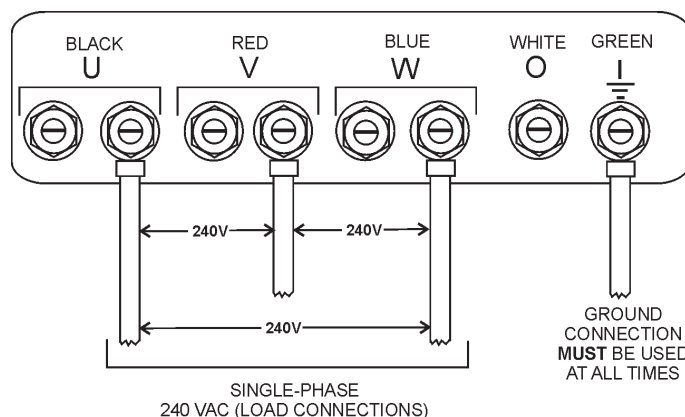

Figure 23. UVWO Terminal Lugs 1Ø-240V Connections
2. Connect the load wires to the UVWO terminals as shown in Figure 23.